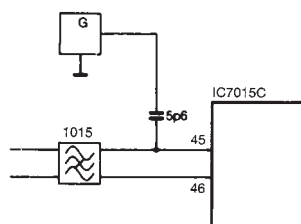

Fig. 1
Connect a signal generator (e.g., PM 5326) as indicated in Fig. 1 and adjust the frequency to 38.9 MHz. (PAL I: 39.5 MHz). Connect a voltmeter to pin 44 of IC 7015:C and adjust voltage with 5040 to 3.5V (DC).